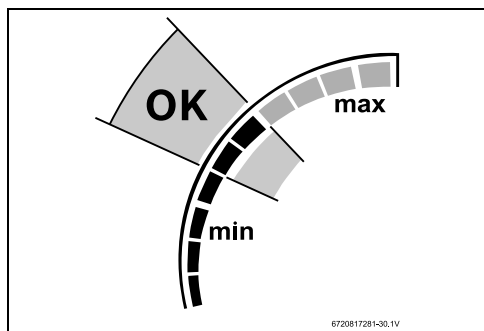

Fig. 47 Power bar middle point
- ▶ Verify if power bar level is at middle point, see fig. 47.